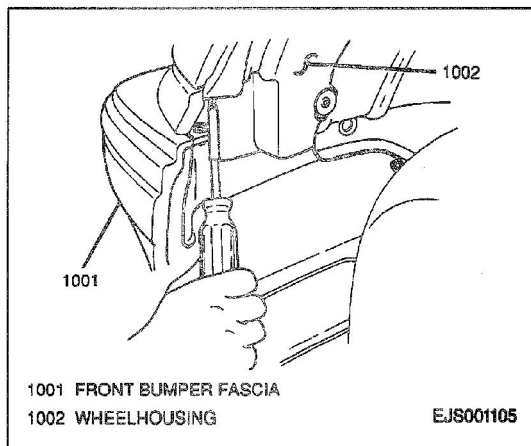

Figure 1—Removing Grille Retaining Screw From Wheelhousing
Figures 1 through 4
1. One grille retaining screw accessible through each wheelhousing (Figure 1).